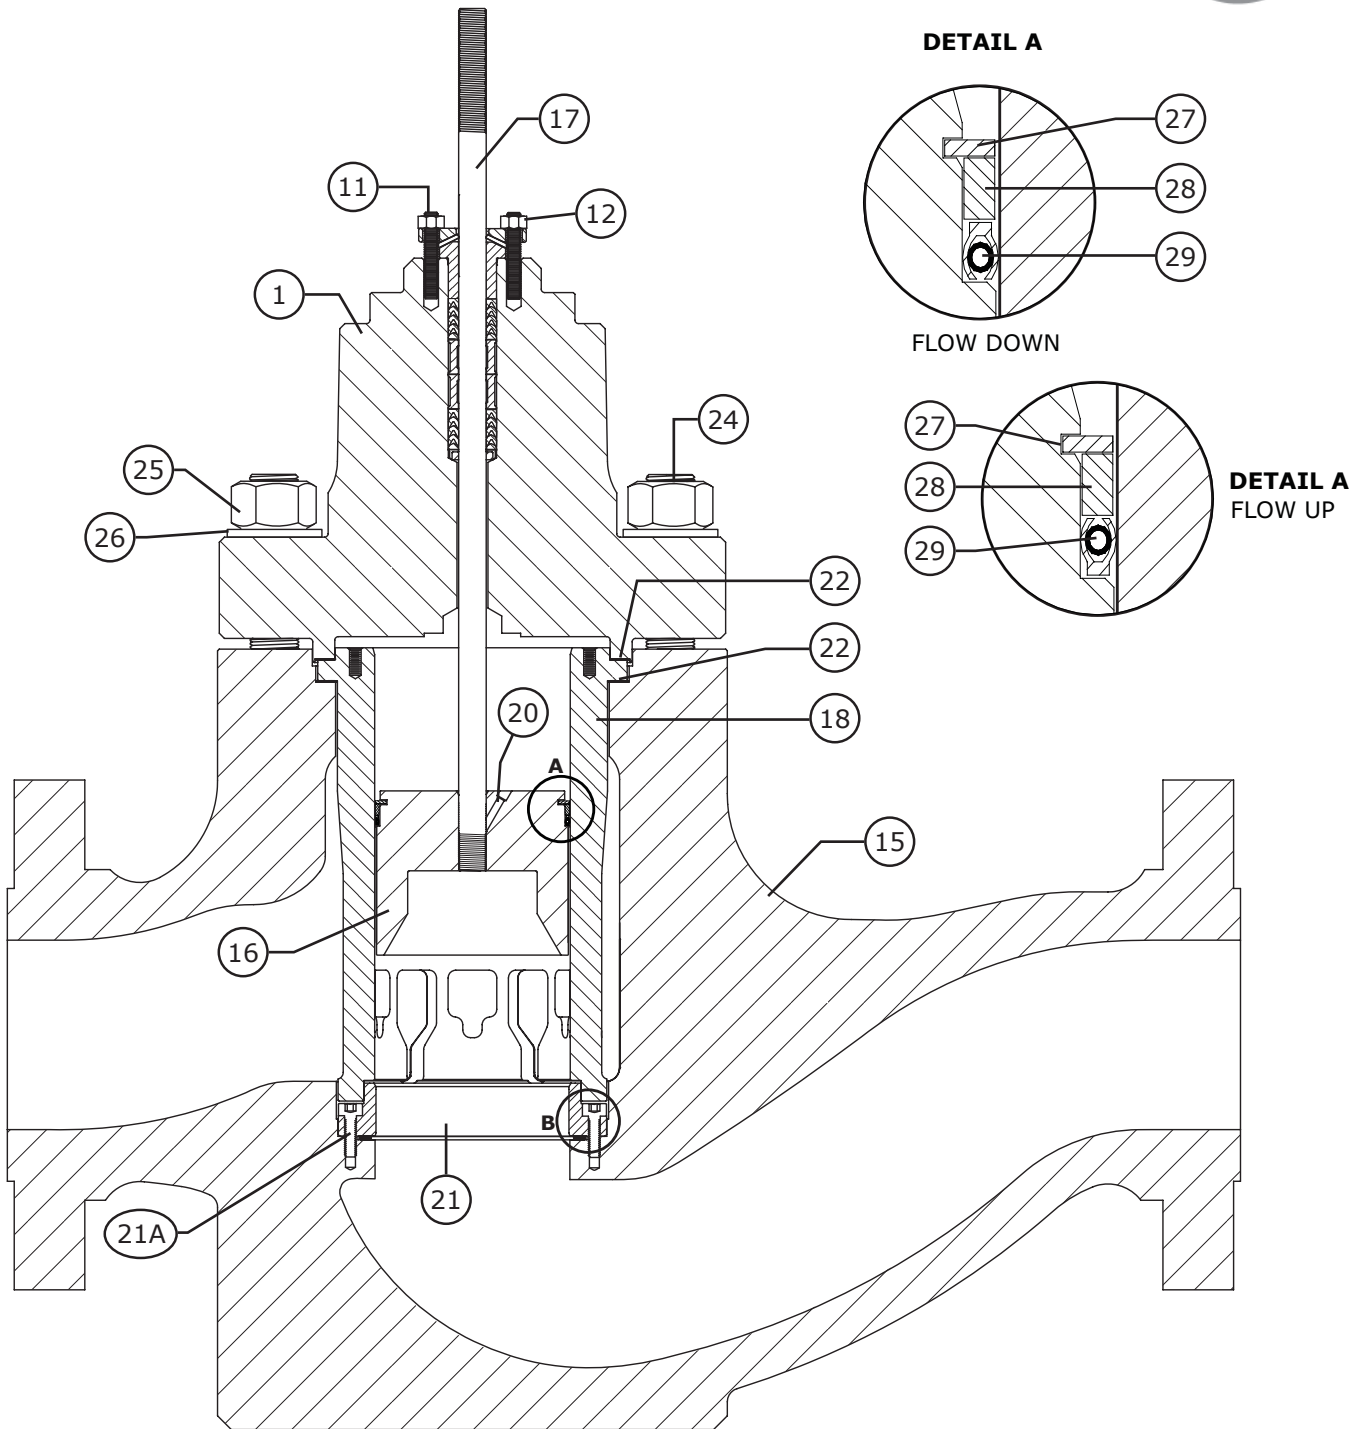

Figure 9 Model 380 Control Valve Cross Section
- A** Refer to assembly diagram (Figure 9). Lubricate plug seal diameter and install seal ring (Key 29) with cup facing the correct direction as shown in Figure 9. Install back up ring (Key 28) and retaining ring (Key 27) as shown.